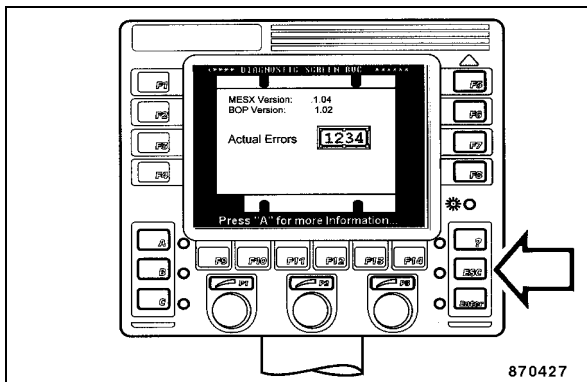

Fig. 203
- Press key "ESC" (Fig. 203) to leave the screen page with the actual fault codes.